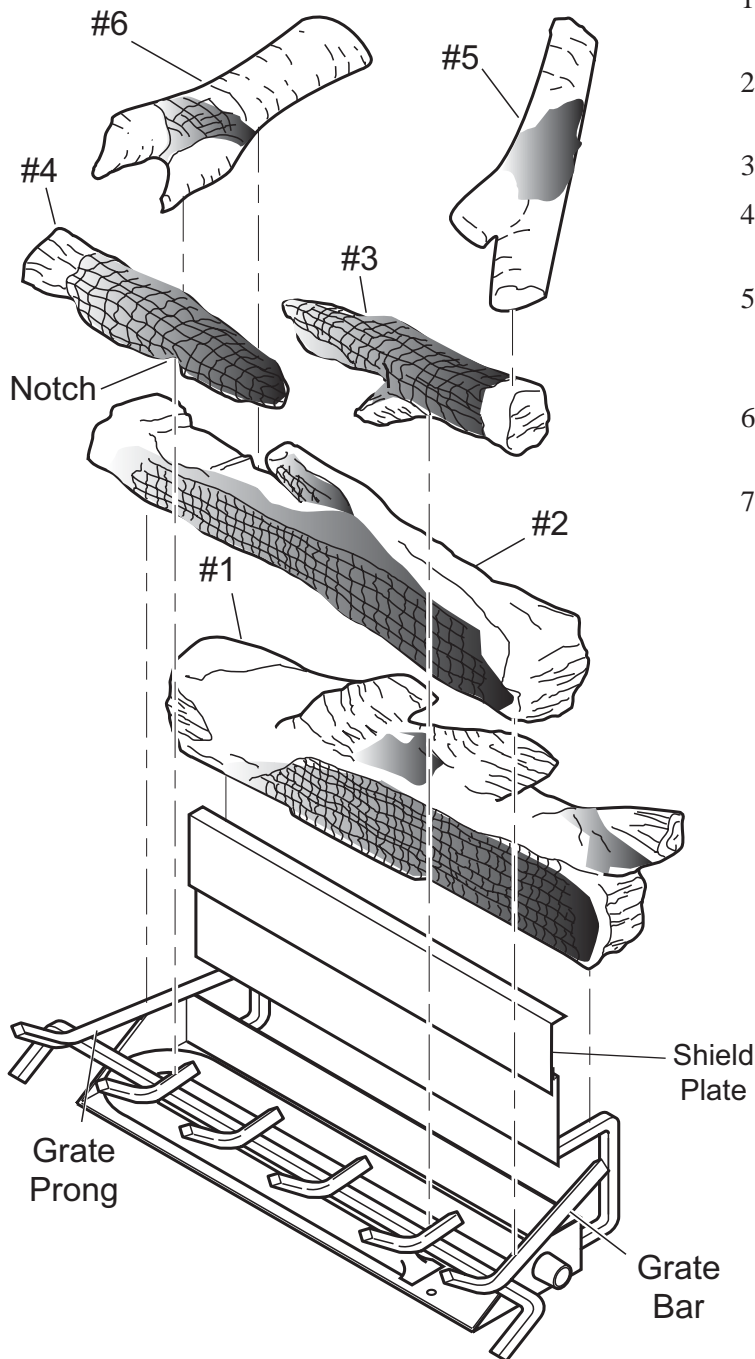

Figure 66 - VWF24B (Birch) Log Placement
1. Slide shield plate down back of burner pan. See Figure 66.
2. Place Back Log #1 on grate bars on back of grate. See Figure 66.
4. Position Right Front Log #3 on right front side of grate. See Figure 66.
5. Position Left Front Log #4 on left front side of grate. Make sure notch in bottom of log sits on grate prong. See Figure 66.
6. Rest Top Right Log #5 across top right sides of Log #1 and Log #2. See Figure 66.
7. Rest Top Left Log #6 across top left side of Log #1 and Log #2. See Figure 66.